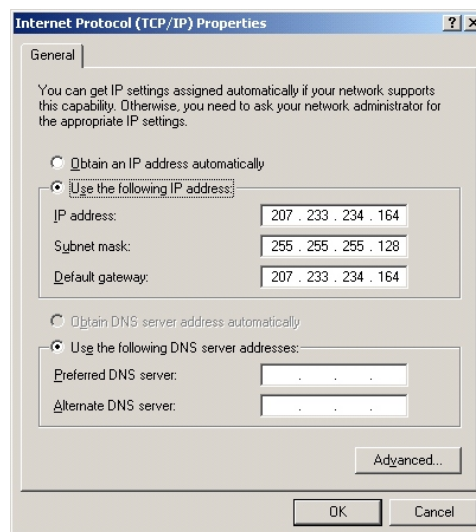

Figure A-1.5
5. Select **Use the following IP address** and type in the fields: **IP address**, **Subnet mask**, and **Default gateway** as shown in Figure A-1.5.
6. Ensure the button is selected in the **Use the following DNS Server addresses** field. Leave the **Preferred DNS server:** address block empty. Leave the **Alternate DNS server:** field empty (see Figure A-1.5).